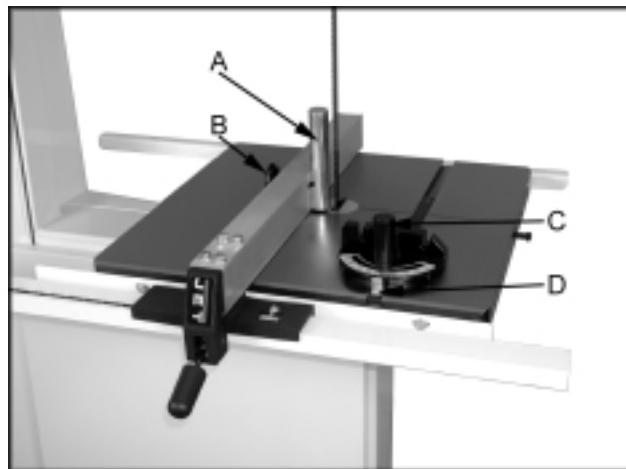

Fig. 12
For resawing attach the post (A, Fig. 12) to fence with the lock knob (B, Fig. 12). There is a slotted hole in the fence that will accommodate the resaw kit. Position the post so that it is centered with the front edge of the blade. The resaw guide will give you a taller, single point contact surface during resawing.
- If the miter gauge is not square to the blade loosen the lock knob (C, Fig. 12) and adjust to the proper setting. Tighten the lock knob.
- If the pointer is not at 90 degrees, loosen the screw (D, Fig. 12) holding the pointer and move the pointer to 90 degrees.